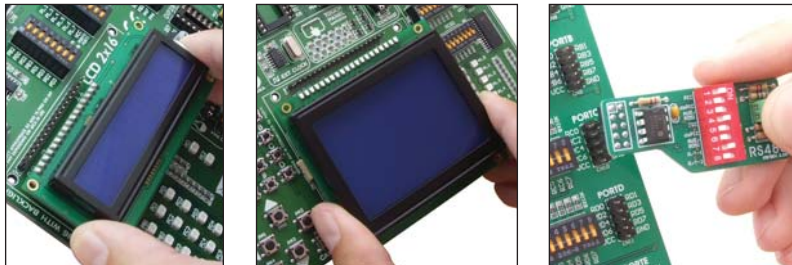

Figure 1-3: Placing additional modules on the board
**NOTE:** If you use some additional modules, such as LCD, GLCD, extra boards etc., it is necessary to place them properly on the development system before it is turned on. Otherwise, they can be permanently damaged. Refer to Figure 1-3 for their proper placing.